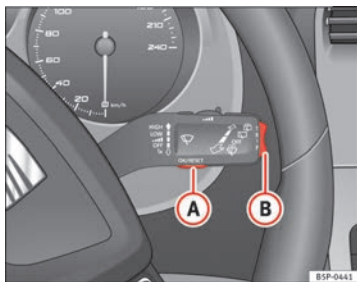
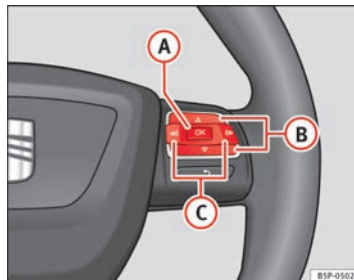

Fig. 45 Windscreen wiper lever: button A to confirm the menu selection and rocker switch B to change the menu
Fig. 46 Steering wheel controls: button A to confirm the menu selection and switch B to change the menu
- To access the “Configuration” menu, press button **C** ⇒ Fig. 46 until the menu is displayed. Now you are in this menu.
- To change from one memory to another, briefly press button **A** ⇒ Fig. 45 ⇒ page 68 on the windscreen wiper lever or the **OK** button on the multifunction steering wheel ⇒ Fig. 46 ⇒ page 68 while the ignition is switched on. ▶
The following data can be viewed on the multifunction display using the rocker switch **(B)** → Fig. 45 ⇒ page 68 on the windscreen wiper lever or by pressing button **(A)** or **(V)** → Fig. 46 on the multifunction steering wheel*.
- Press button **⏪** or **⏩** on the multifunction steering wheel* ⇒ Fig. 46 until the **Vehicle Status** menu is displayed.